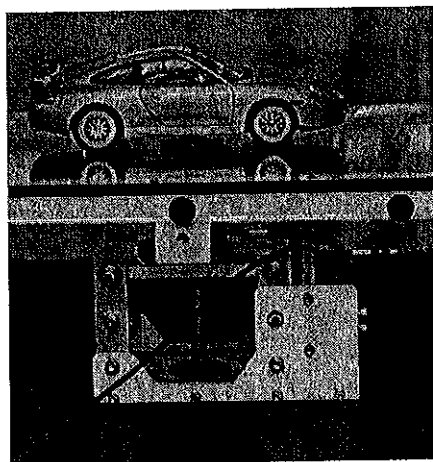

Figure 14 Insert the Model Support Shaft into the Balance Assembly (Model Car Shown - Not Included)
6. From inside the working section, insert the model support shaft through the bottom of the working section and into the Balance Assembly (see Figure 14). The model must face into the airflow (towards the inlet).